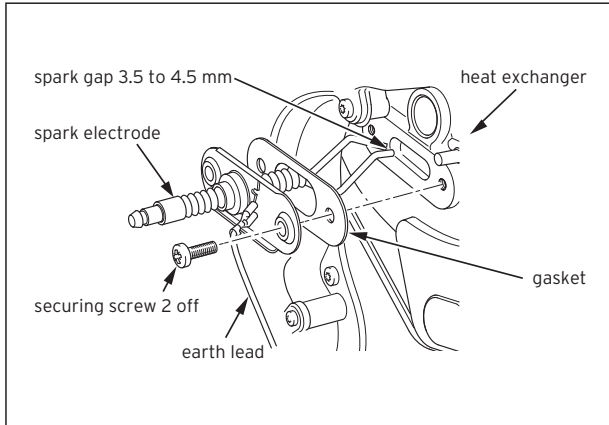

Fig. 8.4 Withdrawing the spark electrode
- Withdraw the spark electrode carefully from the combustion chamber, see fig 8.4.